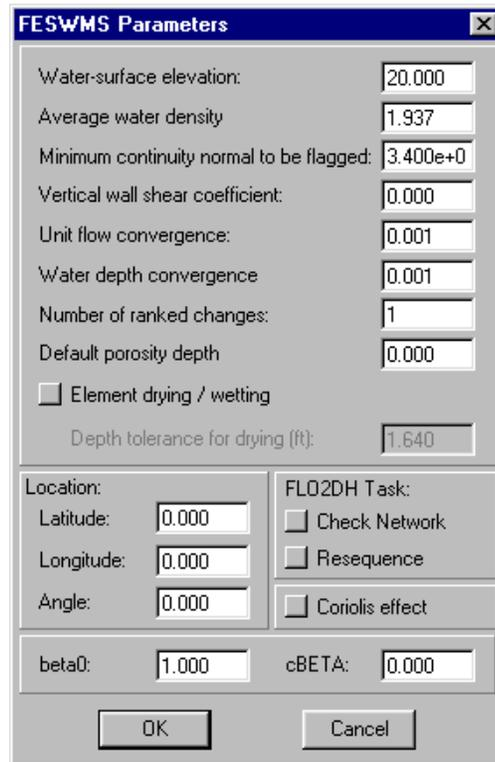

Figure 5-2 The FESWMS Parameters dialog.
5. Click the *Parameters* button and set the values as shown in Figure 5-2. Then click the *OK* button to return to the *FESWMS Control* dialog.